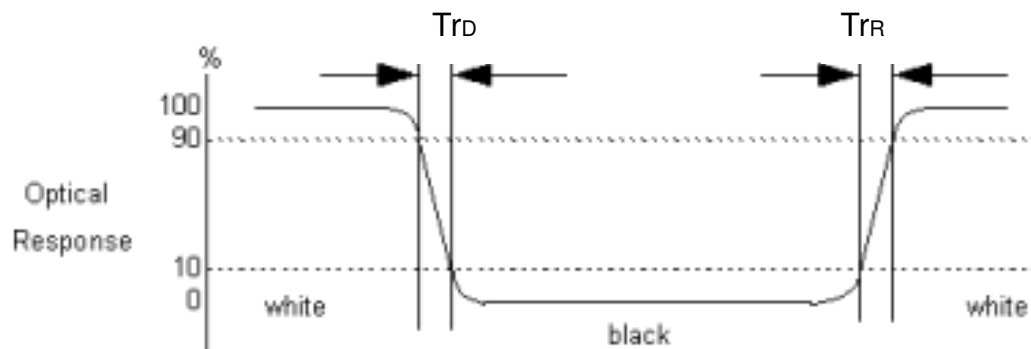

Fig.4-3 Response time
4. Response time is the time required for the display to transition from white(L_{255}) to black(L_0) (Decay Time, $T_f = T_{rD}$), and from black(L_0) to white(L_{255}) (Rise Time, $T_r = T_{rR}$). For additional information see Fig. 4-3.